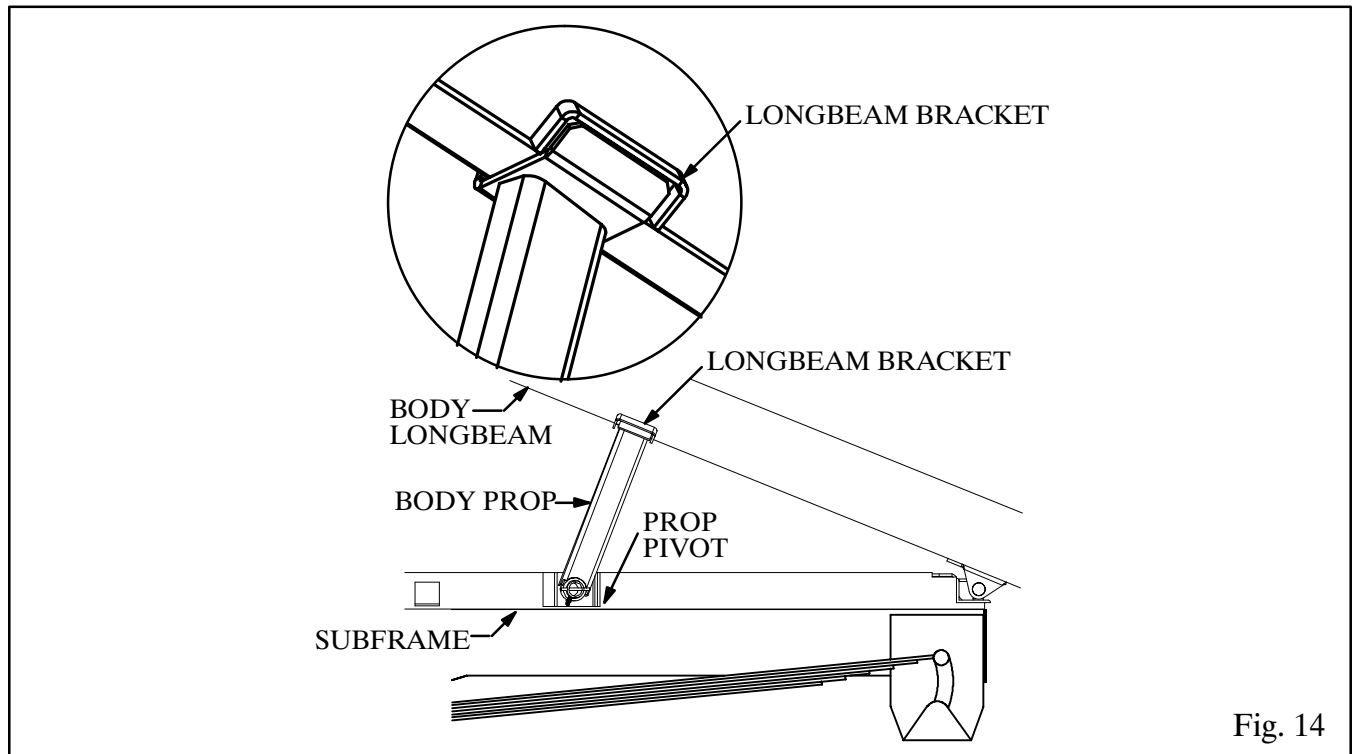

Fig. 14
4. Place the longbeam bracket against the outside of the longbeam so the legs straddle the prop arm saddle. Securely weld this bracket to the body. (See Fig. 14.)